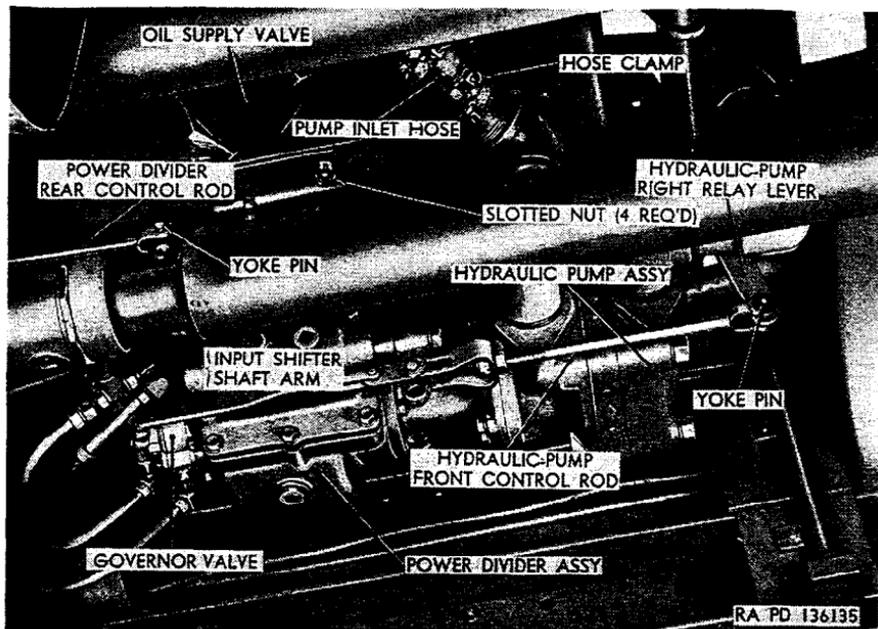

Figure 296. Bottom view of right side of power divider installed M62.
- (e) Close oil supply valve (fig. 296) at underside of hydraulic reservoir.
- (f) Loosen two hose clamps securing pump inlet hose (fig. 296) to reservoir outlet.
- (g) Remove cotter pin and yoke pin (fig. 296) securing hydraulic-pump-front-control-rod yoke to hydraulic-pump right relay lever, and remove yoke from lever.
- (j) Remove cotter pin and yoke pin (fig. 296) securing power-divider-rear-control-rod yoke to input shifter shaft arm, and remove yoke from arm.
- (k) Unscrew nut securing carburetor-to-governor-valve line (AA) to governor-valve (W) inlet port elbow, and remove line from elbow.
- (l) Unscrew nut securing governor-valve-to-control-valve line (BB) to control-valve inlet port elbow (Z) and remove line from elbow.
- (m) Unscrew nut securing control-valve-to-governor line (A) to control-valve outlet port elbow (Z) and remove line from elbow.
- (n) Support power divider, pump, and relief valve assembly, and remove four cotter pins and slotted nuts (fig. 296) securing power divider mounting bracket (fig. 284) to studs on bottom of reservoir. Remove power divider, pump, and relief valve assembly from under vehicle.
- (q) Remove governor-valve control valve from front of power divider (b(2) above).
- (h) Position power divider, pump, and relief valve assembly under vehicle, and secure power-divider mounting bracket to studs on underside of hydraulic reservoir with four slotted nuts (fig. 296) and cotter pins.
- (i) Position control-valve-to-governor line (A) at control-valve outlet port elbow (Z) and tighten connector nut.
- (j) Position governor-valve-to-control-valve line (BB) at control-valve inlet port elbow (Z), and tighten connector nut.
- (k) Position carburetor-to-governor-valve line (AA) at governor-valve inlet port elbow (Z), and tighten connector nut.
- (l) Position power-divider-rear-control-rod yoke on input shifter shaft arm (fig. 296), and secure with yoke pin and cotter pin.
- (o) Position hydraulic-pump-front-control-rod yoke on hydraulic-pump right relay lever (fig. 296), and secure with yoke pin and cotter pin.
- (p) Install pump inlet hose (fig. 296) on reservoir outlet, and tighten two hose clamps.
- (u) Open oil supply valve (fig. 296) at underside of hydraulic reservoir.
- (x) Check governor valve adjustment, and adjust valve, if necessary (a(2) above).